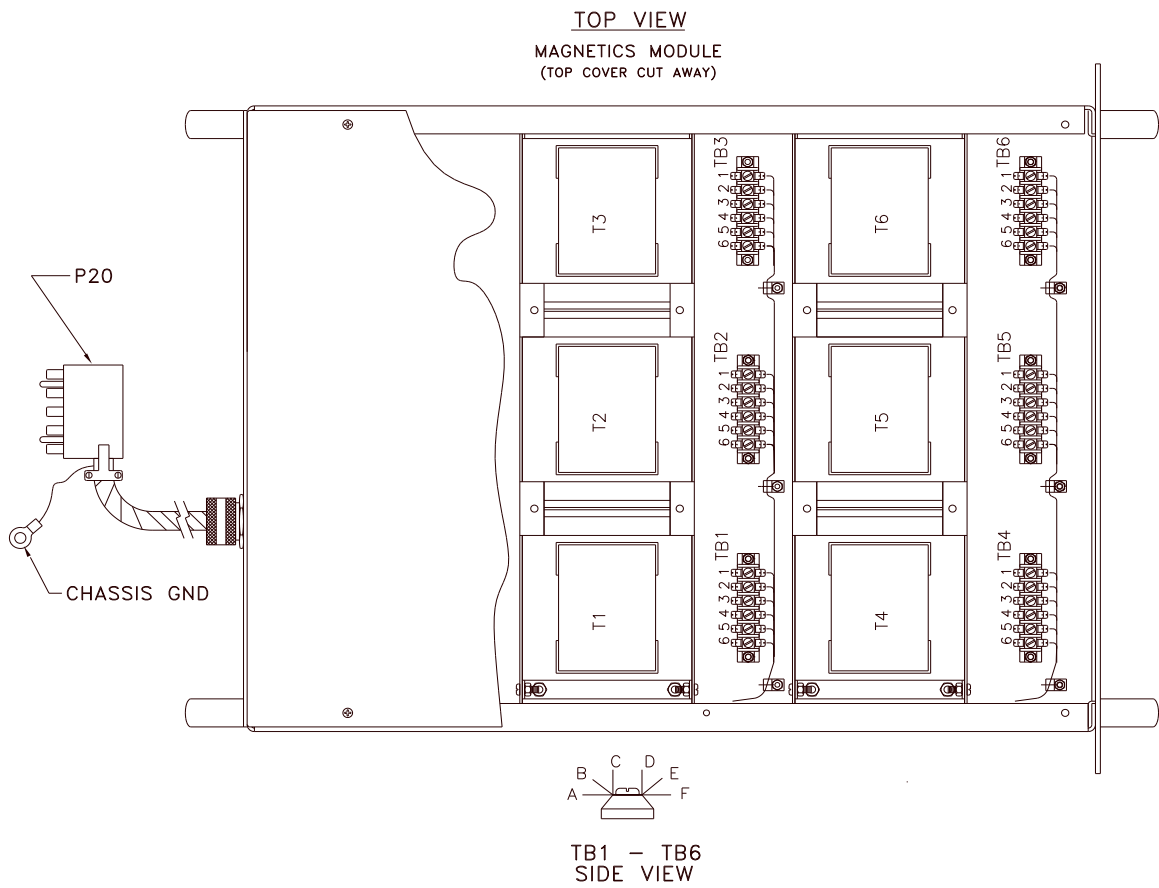

FIGURE 3.2.4 MODELS 140, 160, 345 & 360-ASX OUTPUT VOLTAGE RANGE CONFIGURATION
Refer to Figure 3.2.4 for location of components referenced below and range tap selection information.
- 2) Wire for (X.X):1 ratio as per wire table of Figure 3.2.4.